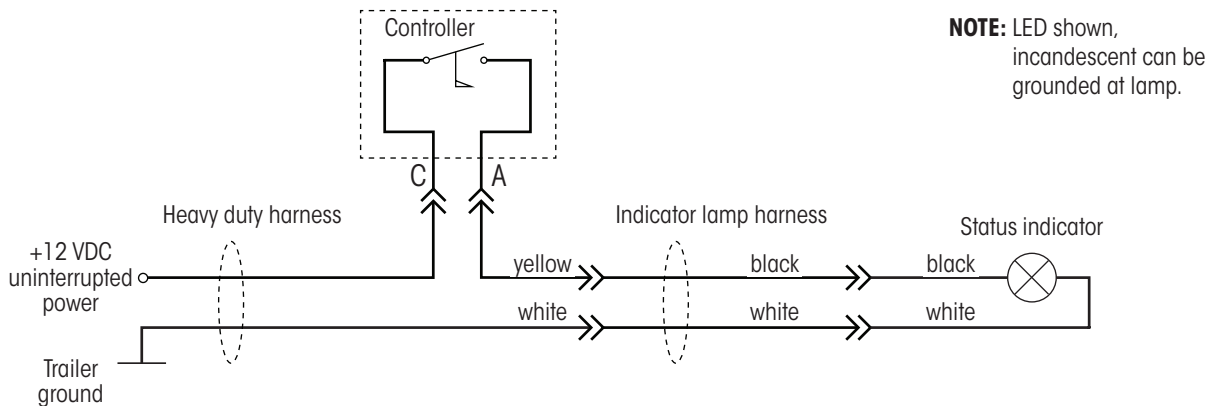

Figure 37: Typical wiring schematic for indicator lamp
- Figure 37 shows a typical wiring schematic for the TIREMAAX systems.
Refer to Figure 37 schematic before continuing.
3. **Connect** other end of indicator lamp power wire and ground connection according to Figure 37.
1. Using Figure 37 on page 28: **Unplug** 5-pin Delphi ABS power connector.
4. **Connect** 3-pin Delphi Weather Pack male connector into the controller assembly as shown in Figure 37 on page 28.
3. **Wire** lamp per figure 37 and harness instructions (see page 29).